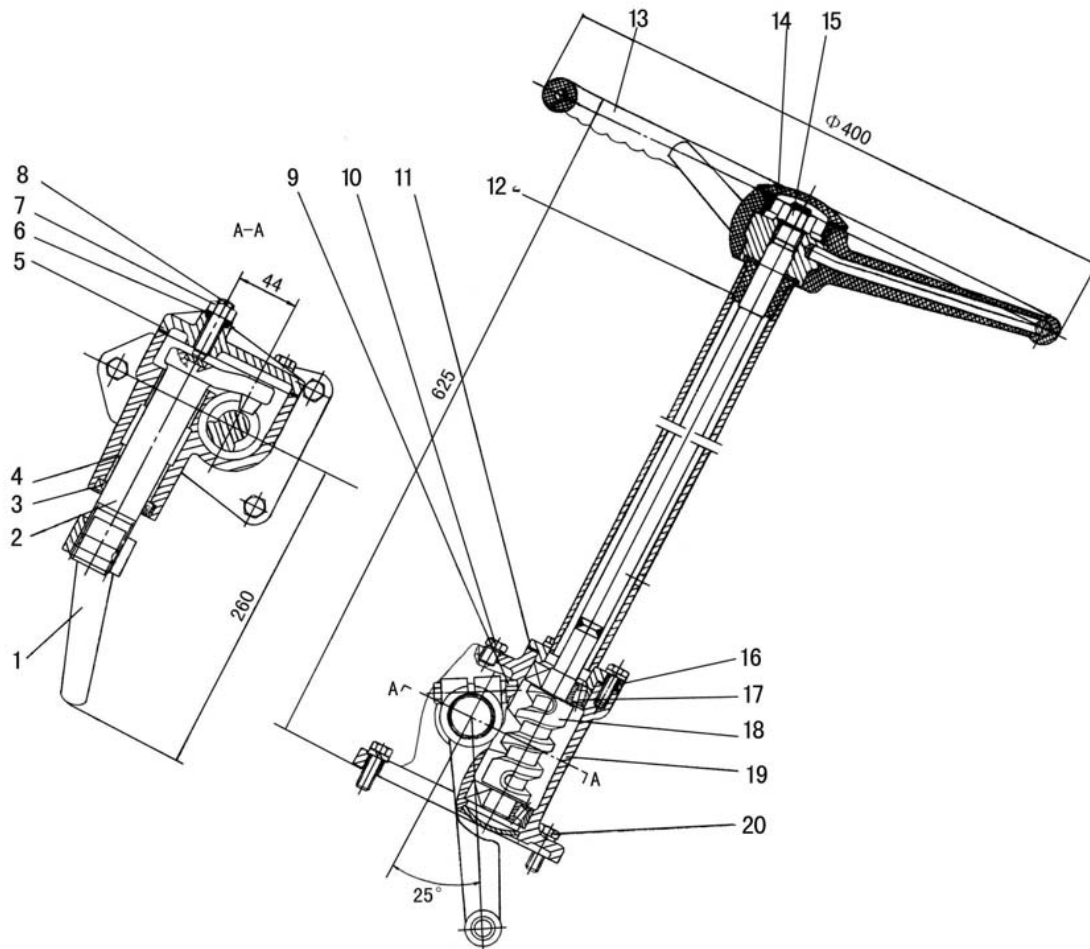
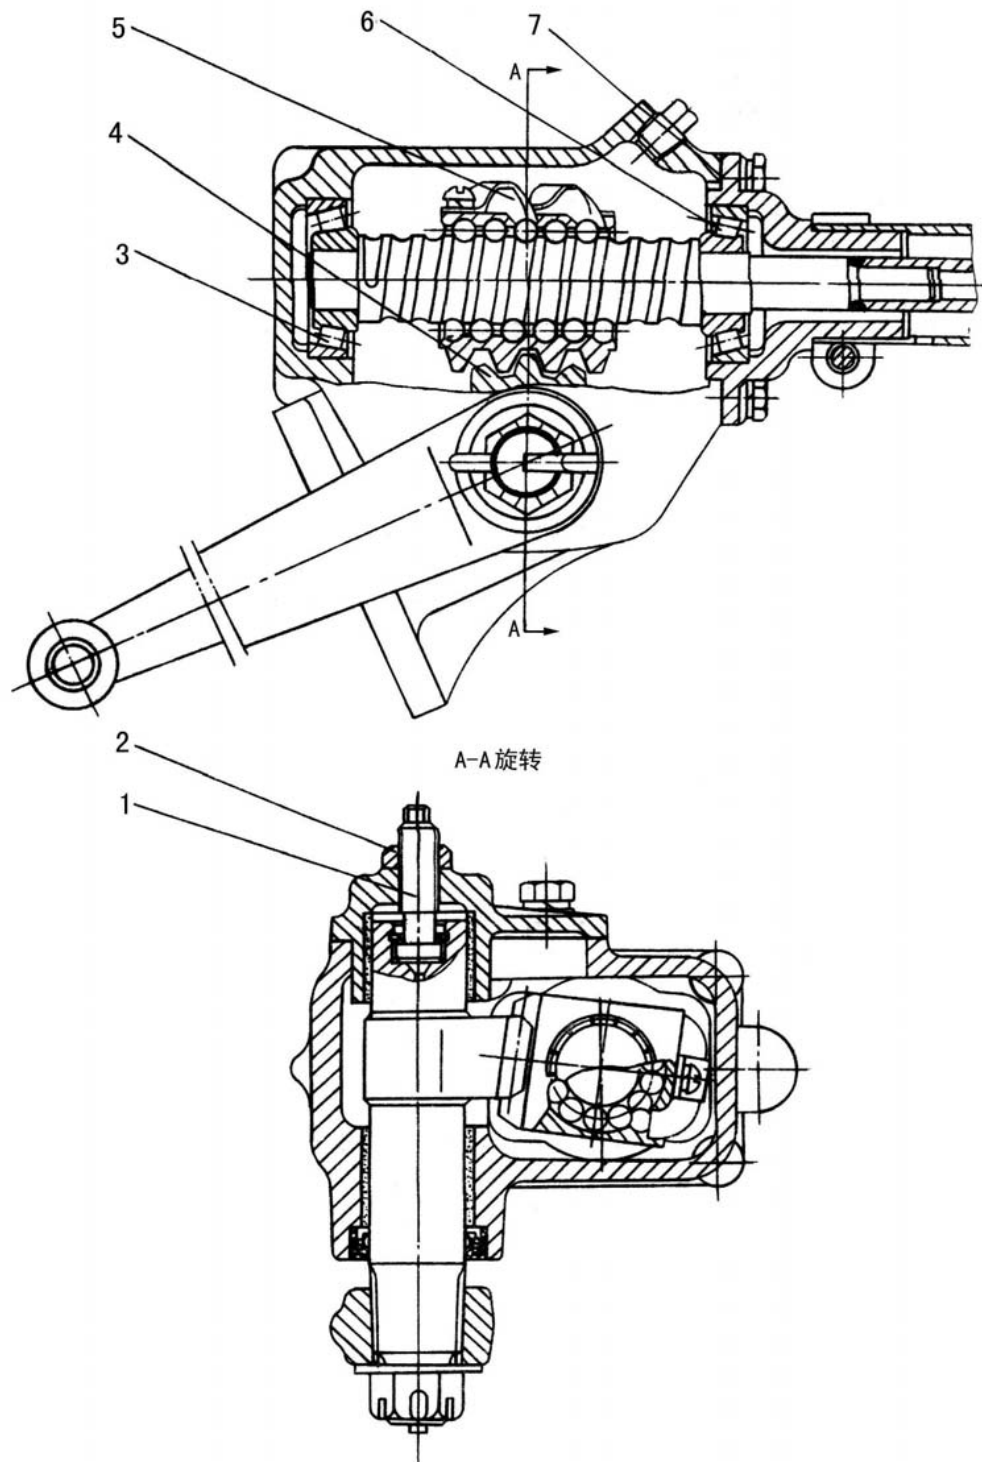
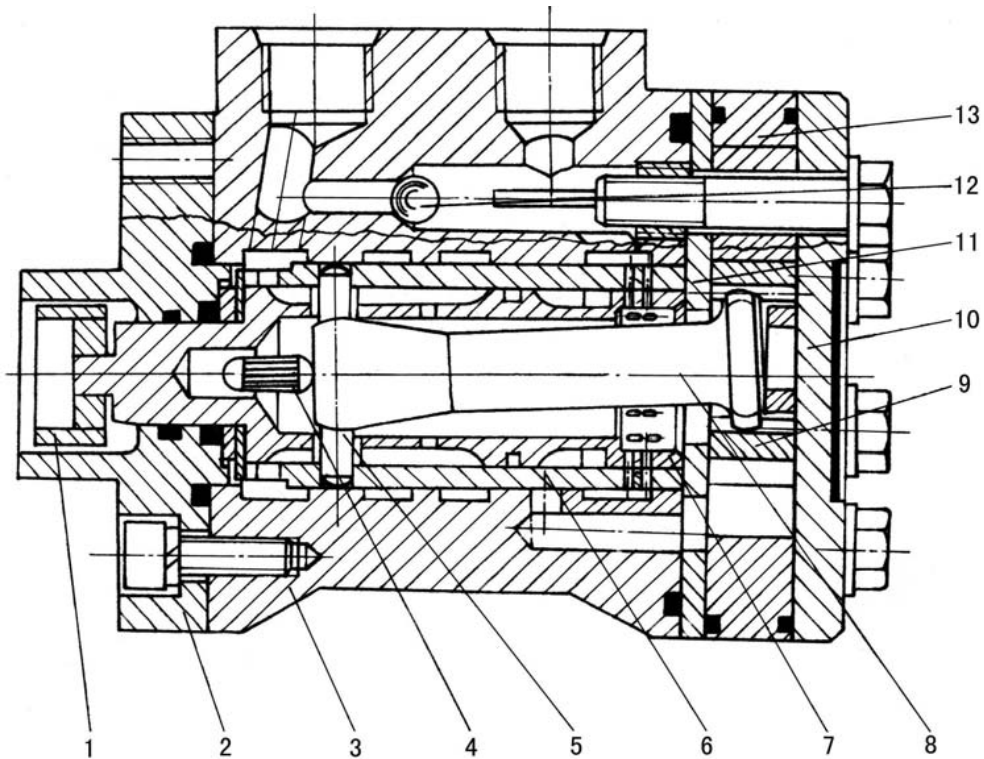

Fig.4-12 Crankpin type steering gear
Fig.4-13 Circulating ball type steering gear
Fig.4-14 Balance string type hydraulic steering gear
There are three kinds of steering gear of Agracat Series Tractors: crankpin type (Fig.4-12), circulating ball type (Fig.4-13) and hydraulic steering gear (Fig.4-14).
### 1) Adjustment of crankpin type steering gear (Fig.4-12)
**A. Working principle of balance string type hydraulic steering gears** BZZ series balance string type hydraulic steering gears are adopted in the hydraulic steering gears of Agracat series tractors; their structure diagram is as Fig.4-14. It is mainly made up of steering control valve and steering measuring device.